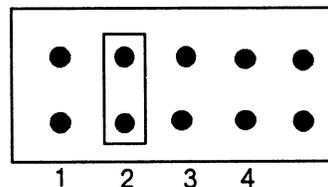

Figure 7-2. Selecting a Second 85MB Disk Drive as Drive 1
2. Locate the jumper select card on the lower-left, rear side of the disk drive you are installing (CDC). To make this drive 1, jumper position 2 (see Figures 7-2 and 7-3).